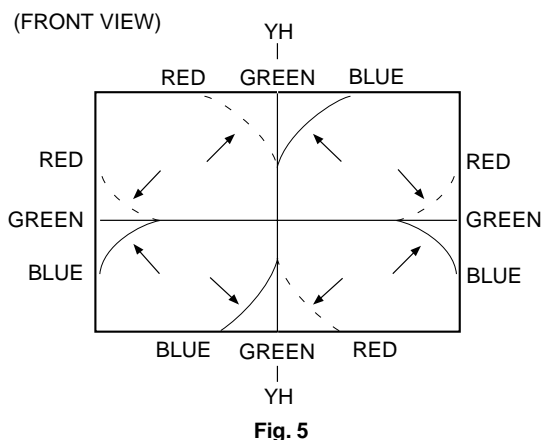

Fig. 5
1. Using the Y_H VR on the deflection yoke, match the Y_H (CROSS). (Fig. 5 and 8)